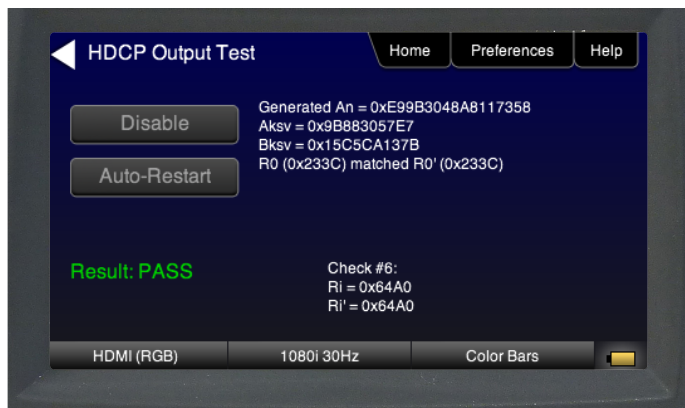
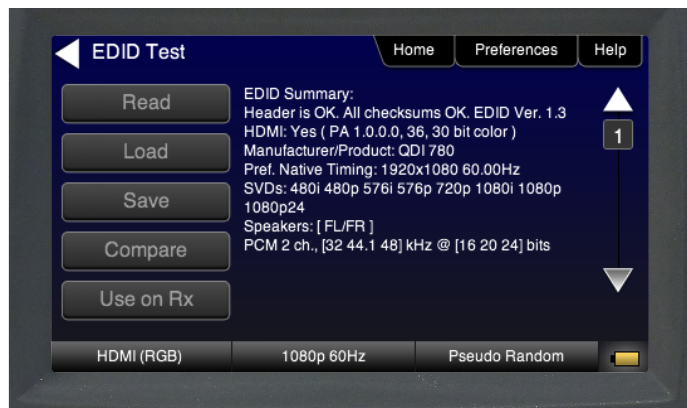

Figure 5 – Checking the HDCP Protocol through the HDBaseT link
Figure 6 – Checking the EDID Protocol through the HDBaseT link
The DDC channel is subject to physical layer bit errors as the HDMI is extended over greater distances. Bit errors on the DDC channel result in HDCP and EDID transaction failures which disrupt viewing. HDCP authentication failures are a common cause of interoperability problems in installed systems especially with extenders. The 780 enables you to run functional tests on the HDCP, EDID and CEC protocols using the 780 as a known-good HDMI source (TX) and sink (RX). Figure 5 depicts an HDCP functional test. Figure 6 shows a sample of an EDID tests.